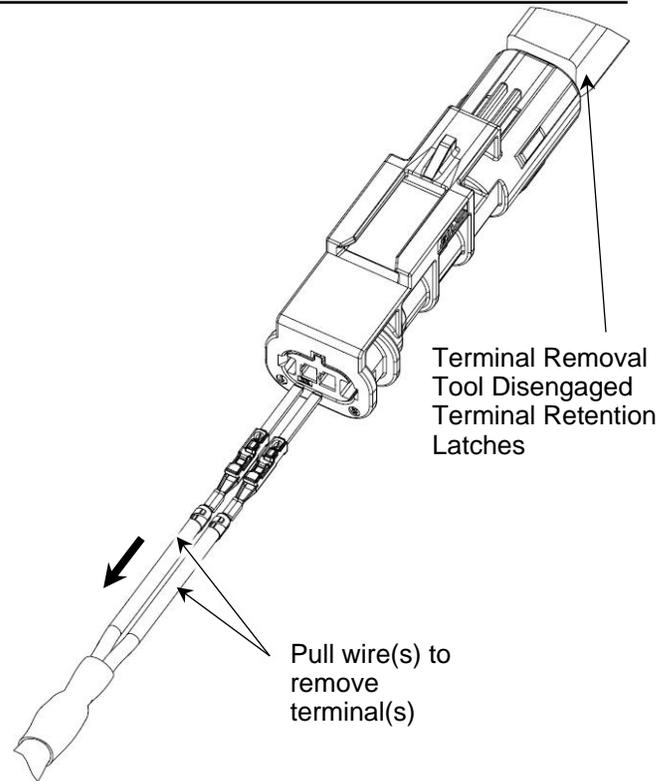

Figure 7
3. With the terminal latches disengaged, use the wire(s) to pull the terminal(s) from the connector. See Figure 7.